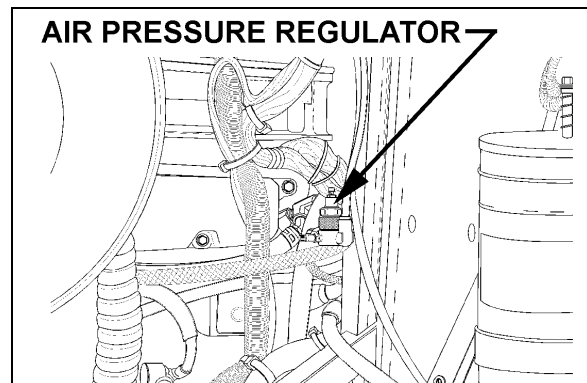

FIGURE 14: AIR PRESSURE REGULATOR (TYPICAL) 07037
18. Adjust the retarder pressure to 80 ± 3 psi with the air pressure regulator. For more information refer to Section 12, "BRAKE AND AIR SYSTEM", under heading "AIR PRESSURE REGULATOR". The air pressure regulator is located at back of engine compartment, on R.H. side (Fig. 14) or in the R.H. side rear service compartment.